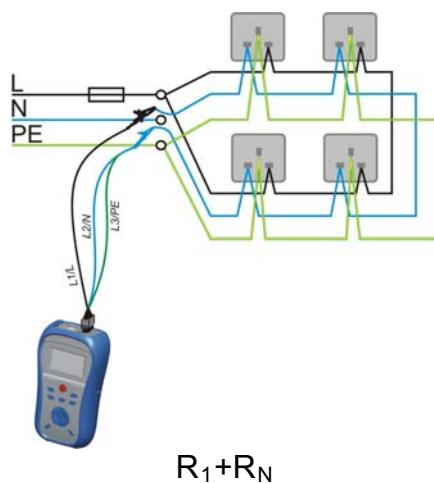

Figure 5.12: Connections for testing the r_1 , r_N , r_2 and R_1+R_N sections of the wiring in ring circuits
- **Connect** the test leads to the appropriate PE wiring (see figures 5.12 and 5.13).